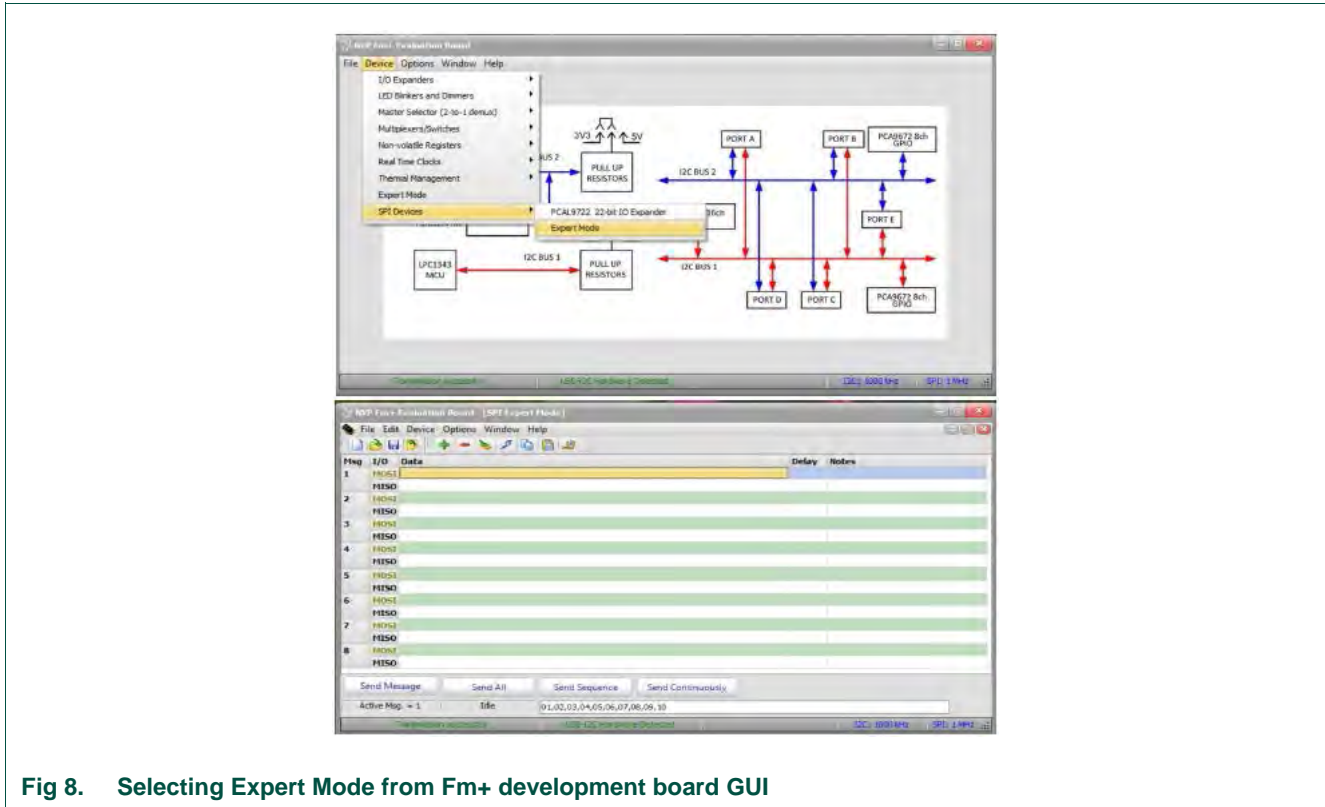

Fig 8. Selecting Expert Mode from Fm+ development board GUI
The PCA9745B is controlled by Fm+ development board GUI in Expert mode as shown in Fig 8.
Connect the hardware as described in Section 4.2. All jumpers are in default setting for PCA9745B demo board. When you have correctly installed the software and the demonstration board hardware is connected and recognized by the computer, start the Fm+ development board software. As shown in Fig 8, when the demonstration board hardware is correctly connected to the USB port and the computer recognizes it, the message “USB-I2C Hardware Detected” is displayed on the bottom of the window. SPI Frequency is controlled through the “Options” menu or by clicking on the frequency symbol on the bottom of the window.
1. From the ‘Device’ drop-down menus select ‘Expert Modes’ as shown in Fig 8.